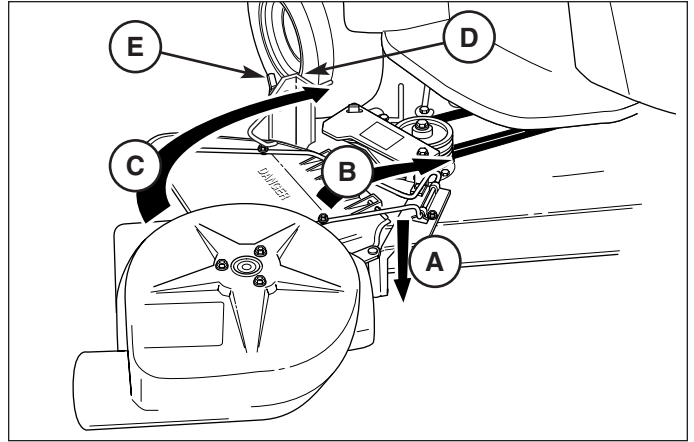

Figure 17. Install Turbo Blower
1. Install the turbo unit by sliding the turbo pivot rod into the pivot bracket at the front edge of the mower deck (A, Figure 17).
2. Tilt the deflector UP (B).
3. Rotate the turbo unit (C) into position on the discharge of the mower deck, and “latch” the slot in the turbo housing over and onto the anchor bracket at (D). Tighten the wing nut (E) to secure.